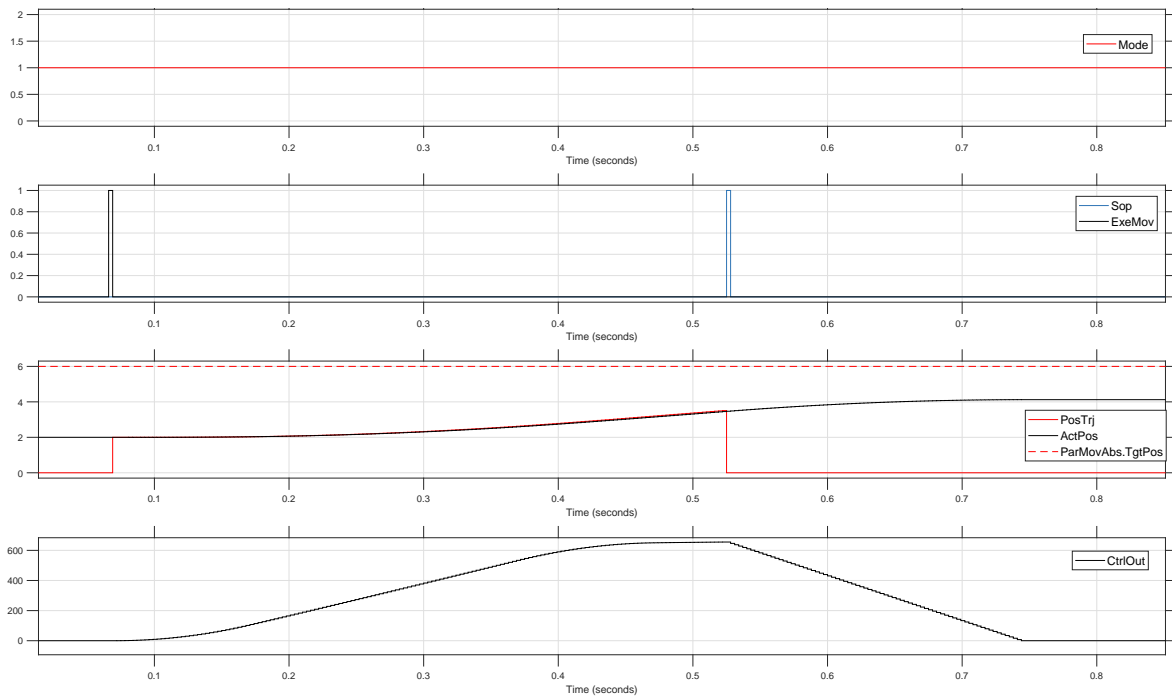

Figure 8: Maximum deceleration of the stop trajectory.
After the stop input is activated, normal operation of the function can only resume once the acknowledge, *Ack*, input is activated. This ensures that the system is properly reset and ready for continued use after an emergency or controlled stop. See figure 8.
- The *Stop* input is a critical safety and control feature that overrides all other modes of operation. Regardless of the current mode the function block is in, when a rising edge is detected on the *Stop* input, the function immediately sends a zero-speed setpoint to the motor. This command is executed with a configurable deceleration rate, ensuring the motor comes to a controlled and safe stop. This input is essential for emergency stops or situations where an immediate halt of the motor is required, providing a reliable way to quickly bring the system to a stop. See figure 8